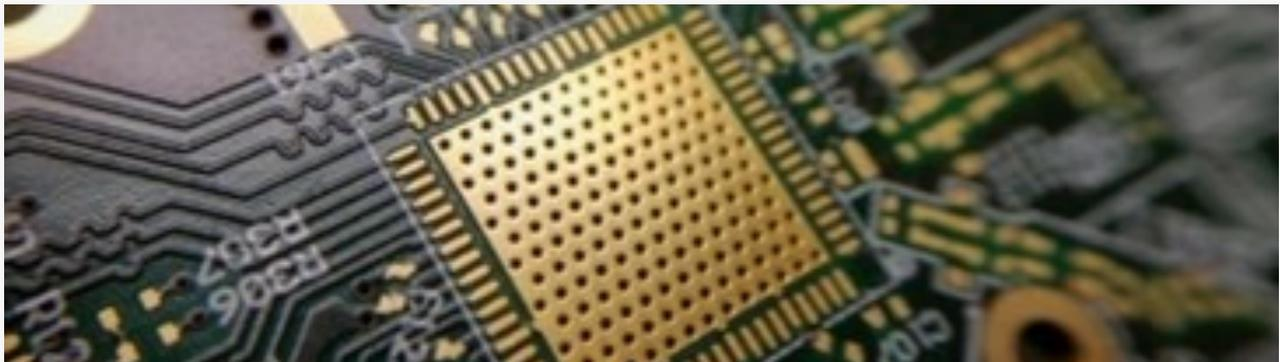

Figure 4: Thermal vias in PCB
- **Thermal vias:** Copper-plated through-holes in a PCB (Figure 4) that conduct heat vertically from surface-mounted devices into internal or backside copper planes.